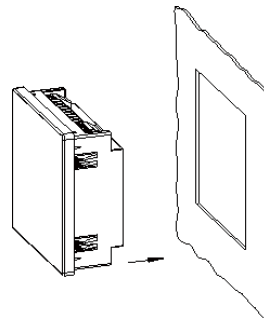

Figure 2: Insert the device
2.- From outside, insert the device into the panel cut-out (**Figure 2**)